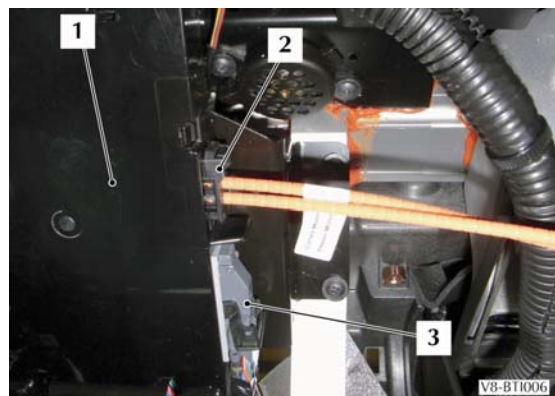

Figure 6
50. Connect the 32-pin connector (Item 3) to the BPM (Item 1) (see Figure 6).
54. Connect the MOST phone-link harness (item 2) (refer to the Table below) to the Bluetooth module (Item 1) (see Figure 6). Make sure that the label near the connector is marked “Module”.